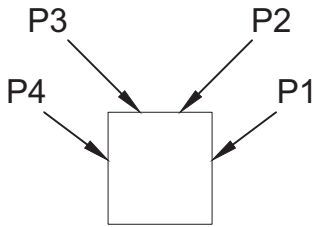

Figure 3-9
Step 24. Use the **FILLET** command to edit the back of the rectangle to create the symbol of a chair (Figure 3-9), as described next:
P1→ (Figure 3-9)